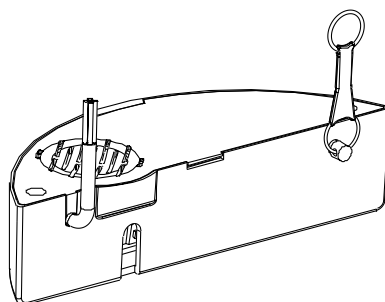

FIG. 3
6. Reassemble horn cover (Fig. 3).